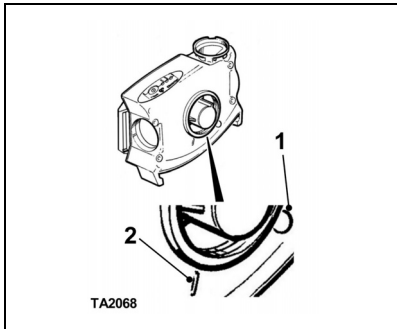

Fig. 3
9. Screw the filter firmly home until the tab on the base of the filter passes over the protrusion or 1st Mark on the blower body or filter adaptor (shown as 1 in Fig. 3). Continue until the filter is finger tight. DO NOT OVERTIGHTEN. DO NOT allow the tab to pass the 2nd Mark (shown as 2 in Fig. 3).